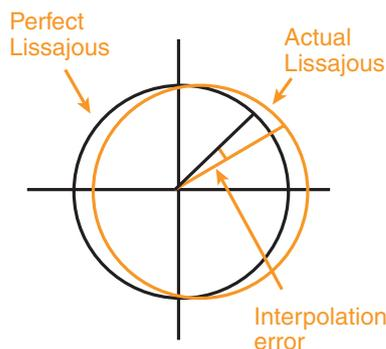
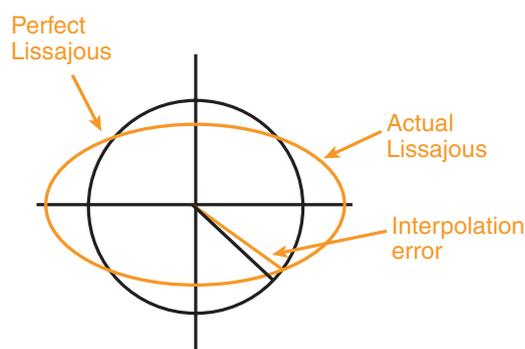

Figure 1- DC Offset
Figure 2- Unequal Signal Levels
- Excessive DC offset (figure 1) and unequal sine and cosine levels (figure 2) will cause non-linearity errors (also known as interpolation error or sub-divisional error or SDE).